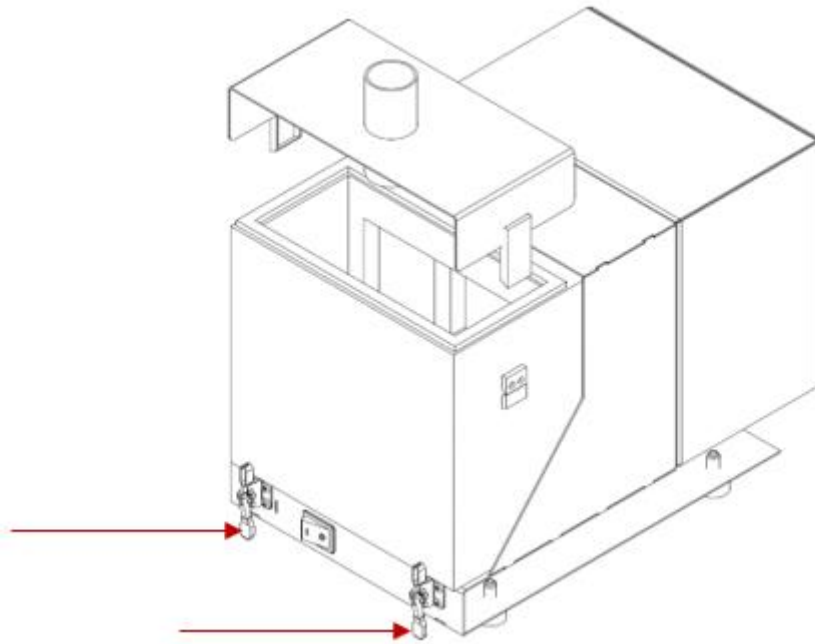

Fig. 137 Clasps fixing the cassette
8. Close the clasps securing the cassette to the filter base (Fig. 137).